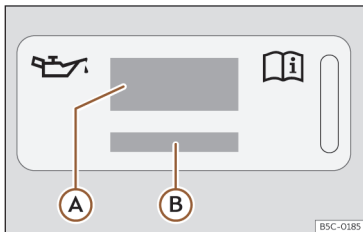
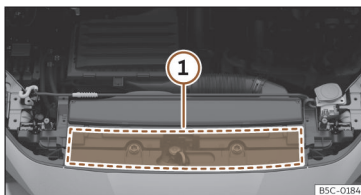

Fig. 215 In the engine compartment: engine oil label
Fig. 216 In the engine compartment: area where the engine oil label is located
Key to the >>> **Fig. 215:**
If the engine oil has to be topped up, use one of the oils shown on the label >>> **Fig. 215**. The label with the prescribed standard is located at the front of the engine compartment >>> **Fig. 216** (1). If you use the recommended engine oil, you can top up the oil as often as necessary.